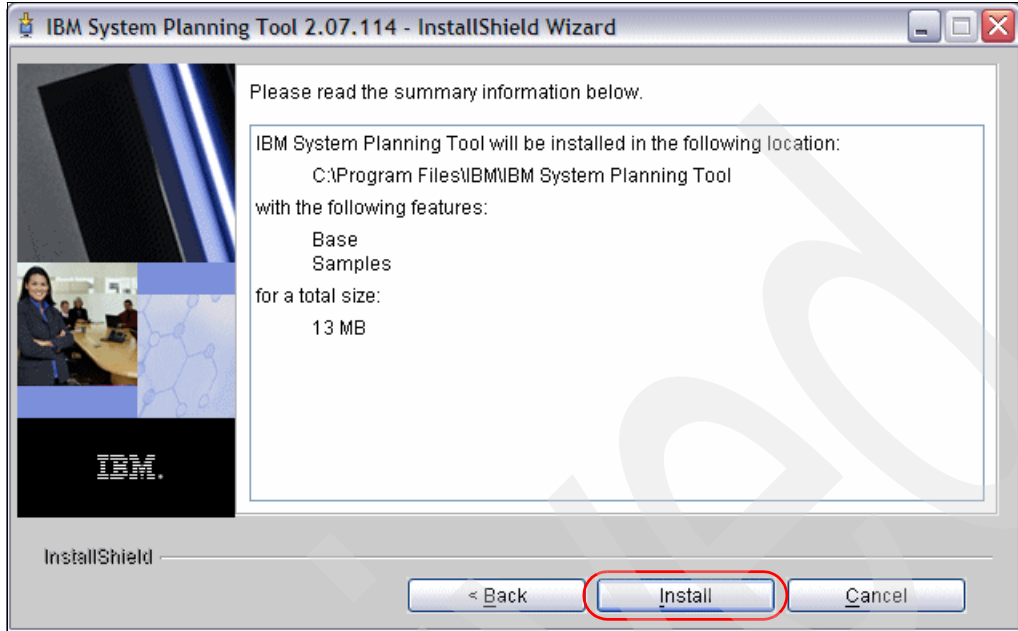

Figure A-20 Confirm the patch installation
- The last window summarizes the installed features and their size and the installation folder, as shown in Figure A-20. Click **Install**.